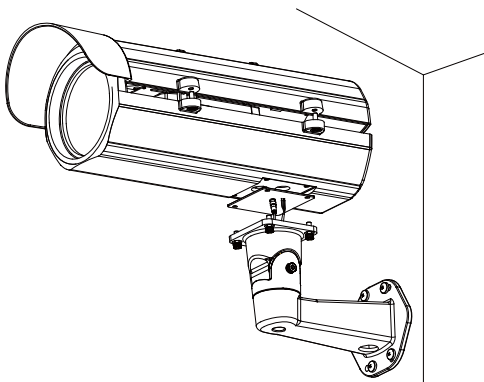
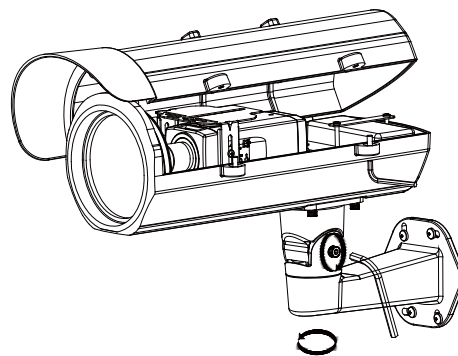

Fig. 6
Fig. 7
Attention: Two solutions are available for waterproof: (1) User can take out the spacer from the accessory pack and stick it right by the outlet (Fig 6) or (2) use the three glands cover and let the power cable and video cable pass through the hole of glands cover (Fig7).